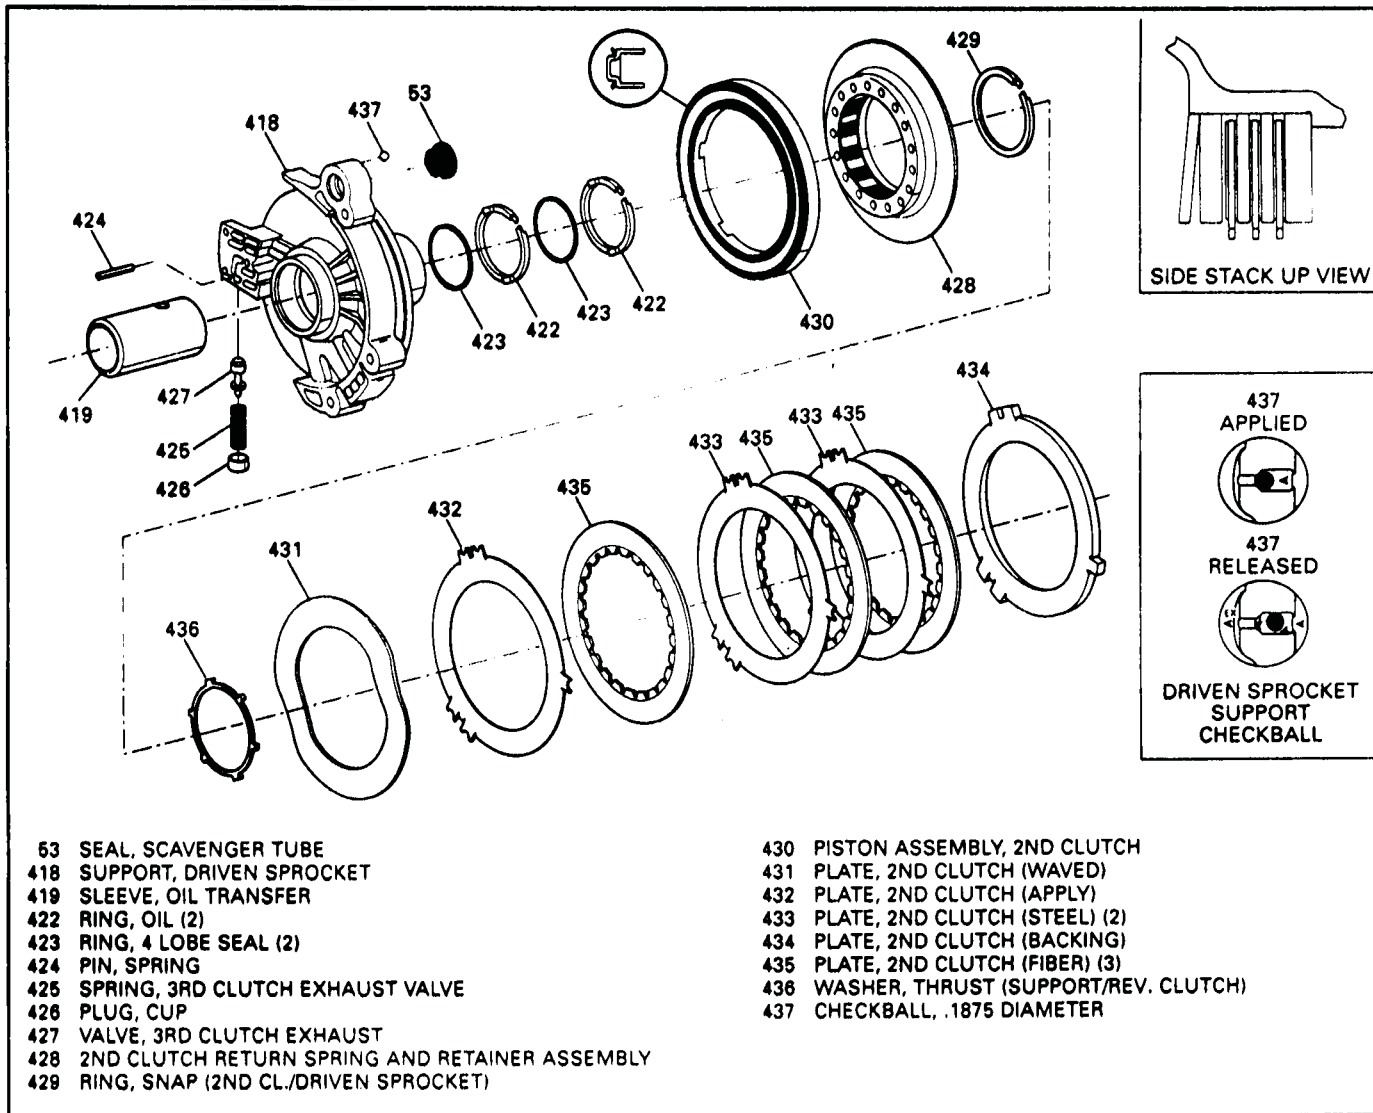

Figure 69
1. Disassemble and clean all parts using Figure 69 as a guide.
2. Inspect all parts shown in Figure 69 for any wear and/or damage.
5. Install 2nd clutch return spring onto 2nd clutch piston (See Figure 69).
9. Install 3rd clutch exhaust valve, spring and retainer as shown in Figure 69.
10. Install thrust washer (436) and retain with TransJel as shown in Figure 69.
11. Install scavenger tube seal into the driven sprocket support in the position shown in Figure 69.